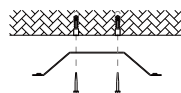

Figure 9
- 2.Insert the supplied rubbers into the alignment holes, then fix the mounting plate on the ceiling by supplied screws. (Figure 9)